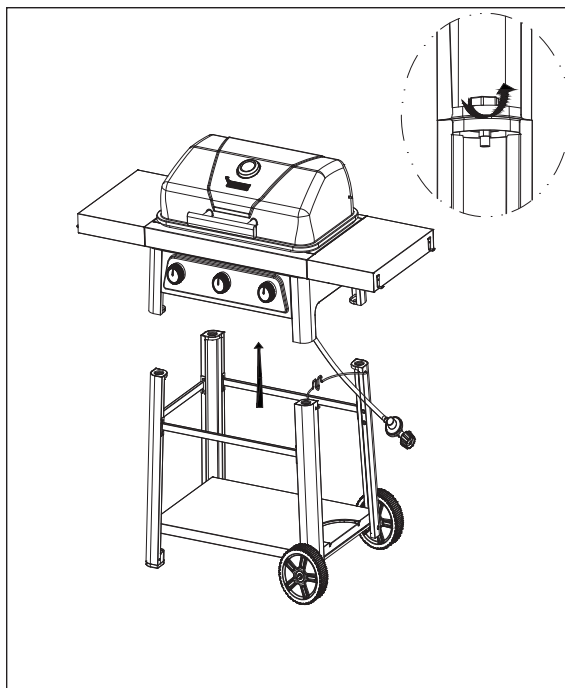

figure 1
- 1) Unscrew the lock screw on each of the leg as shown in figure 1.